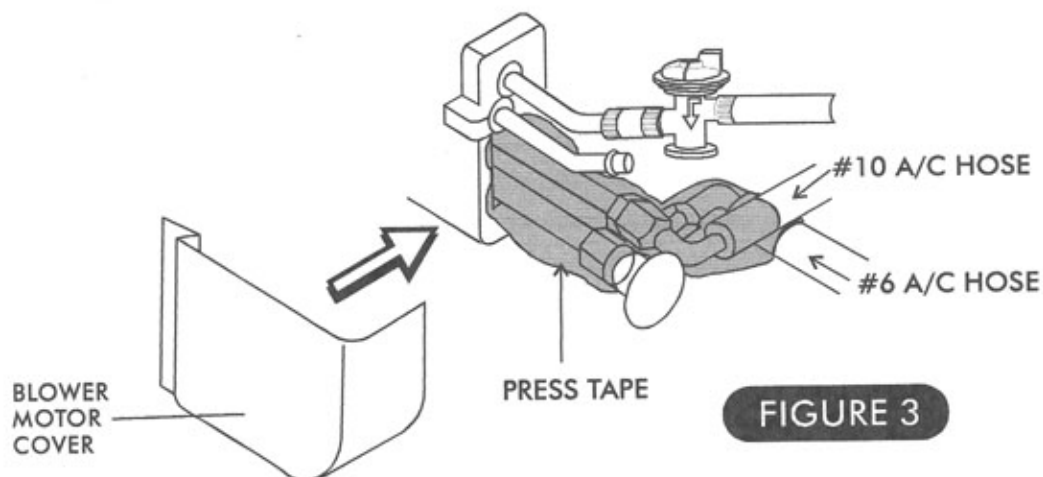

FIGURE 3
8. INSTALL AND TIGHTEN EVAPORATOR FITTINGS WITH REFRIGERATION HOSES ATTACHED TO THE EVAPORATOR. PLACE THE EVAPORATOR ON A WORK BENCH AND TIGHTEN EACH CONNECTION WITH TWO WRENCHES, ONE ON THE FITTING AND ONE ON THE COUNTERPART FITTING ATTACHED TO THE EVAPORATOR. REINSTALL EVAPORATOR BLOWER MOTOR COVER AT THIS TIME. SEE FIGURE 3.